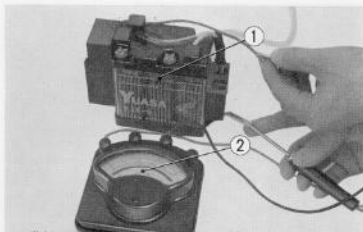

Fig. 5.36 Measuring voltage of battery
- b. Voltage of each batteries are as follows. (Fig. 5.36)